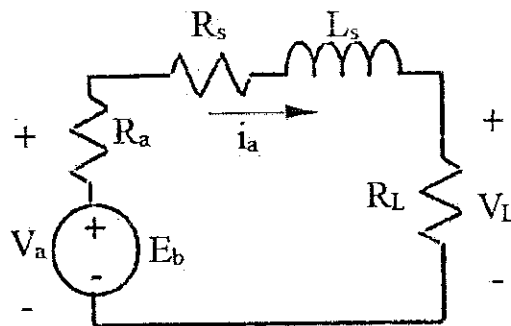

Figure Q03(b)
- b) Consider the 10kW, 120V DC series generator with armature resistance of 0.1Ω and a series field resistance of 0.08Ω given below in **Figure Q03(b)**. Assume that the generator is delivering rated current at rated speed.